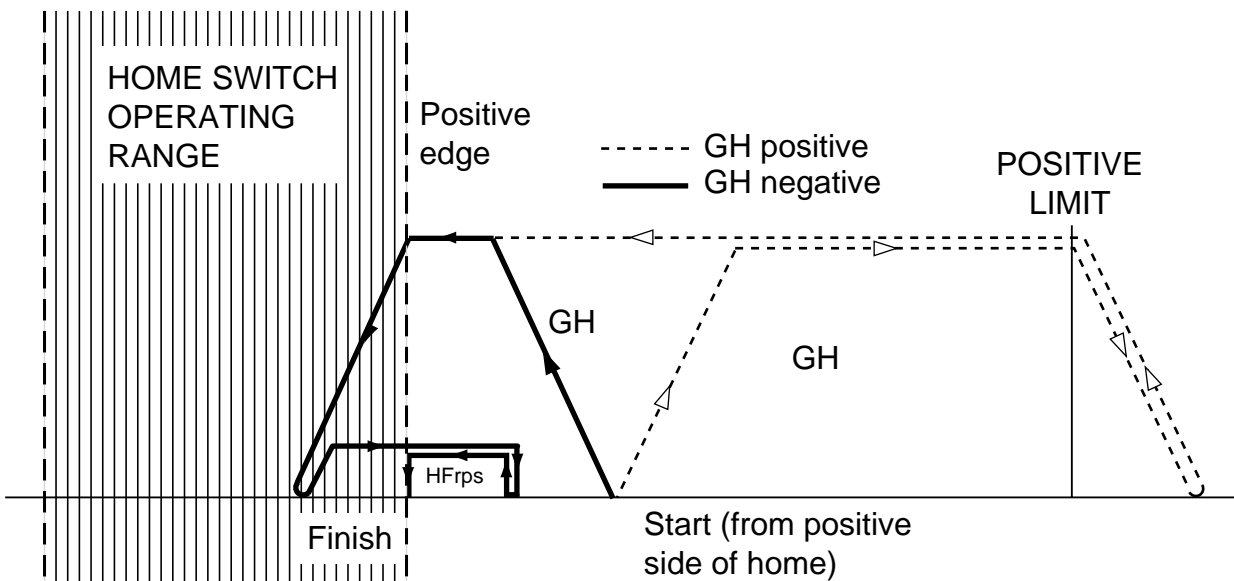

Figure 4-10. Go Home to Positive Edge
The go home command (GH) is used to return to the reference home position. Issuing a GH command will cause motion in a direction defined by the HOME configuration command. Figure 4-10 shows the path taken if motion was started between the positive edge of the home switch and the positive limit (positive side of home). The dotted line represents positive movement and the solid line negative, although once past the positive edge of the home switch both merge to follow one common path. Positive movement results in motion towards the positive limit, once the limit is hit motion is reversed* and finally heads for the home switch. Negative motion will immediately head for the home switch.